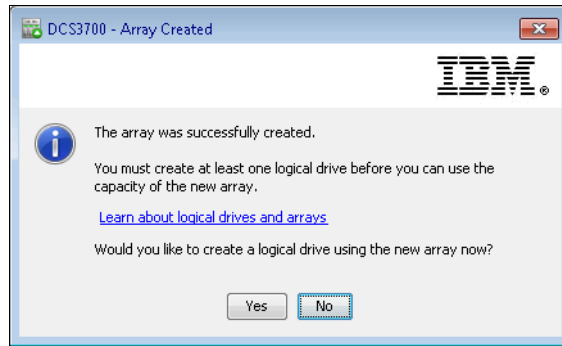

Figure 8-11 Array Created
4. The Array Success window (Figure 8-11 on page 235) opens and confirms that the array is now created. You can click **Yes** to continue with the creation of a logical drive (see 8.6.1, “Creating a logical drive” on page 246). Select **No** to finish for now.